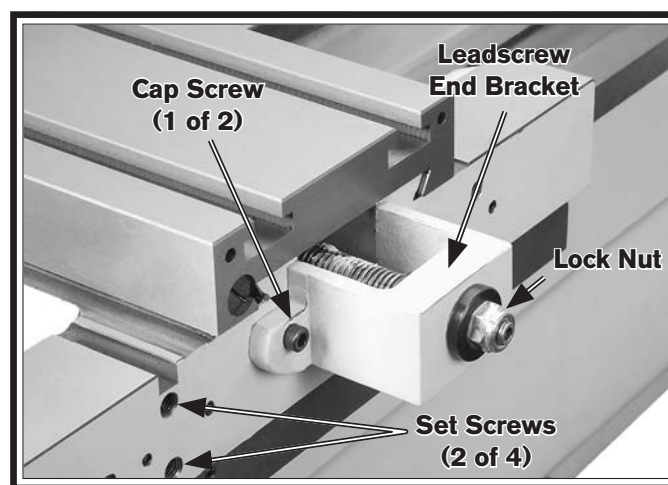

Figure 5. Leadscrew end bracket and fasteners.
3. Move the cross slide all the way toward the front of the lathe to fully expose the lead-screw end bracket (see **Figure 5**).
4. Remove the two cap screws from the end bracket (see **Figure 5**).
5. Remove the four set screws (see **Figure 5**) from the saddle. These holes will be used to mount the taper attachment to the saddle in a later step.
6. Remove the lock nut (see **Figure 5**) from the end of the leadscrew.